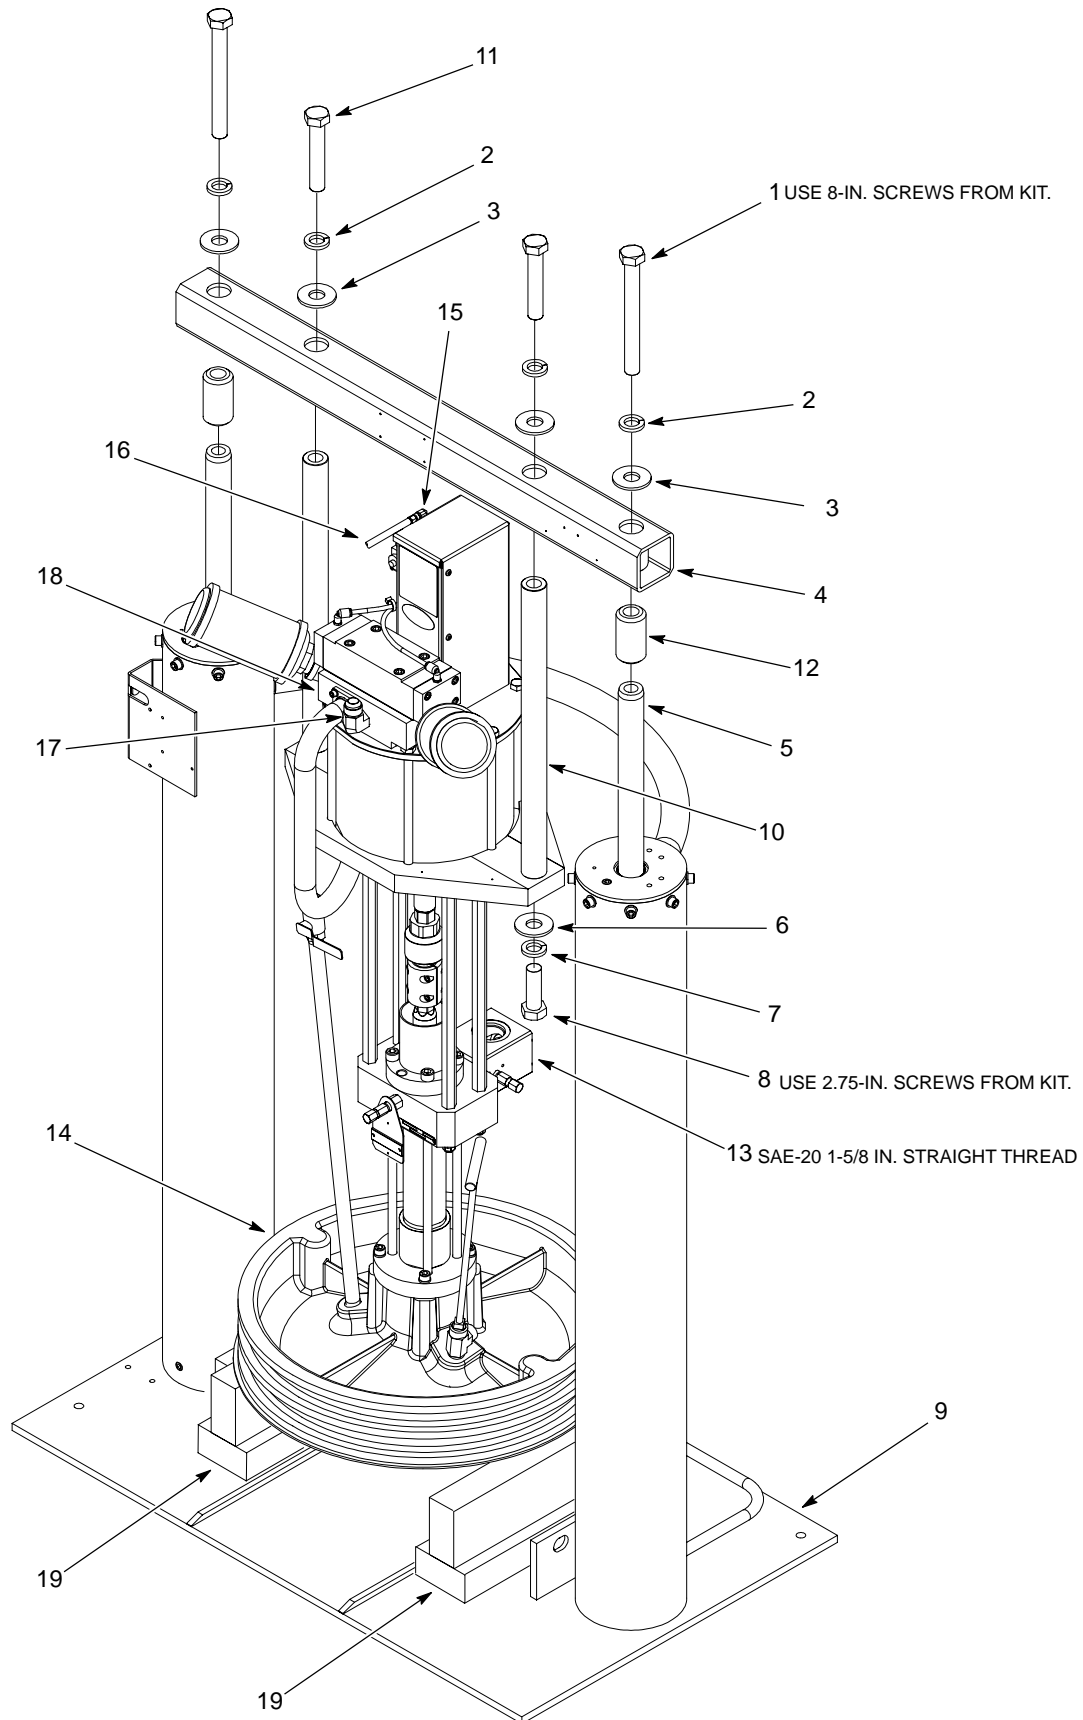

Figure 4 Installing the SD2/XD2 Pump Assembly
- Air line for the air motor signal supply port (Figure 4, Items 15 and 16)
- Regulated air line for the air supply port on the air motor control valve (Figure 4, Items 17 and 18)
1. See Figure 4. Perform the following:
- a. Apply Loctite 242 to the threads of the 2.75-inch screws (8).
- b. Install the mounting rods (10) to the SD2/XD2 pump assembly using the flat washers (6), lock washers (7), and screws (8).
- a. Apply Loctite 242 to the threads of the screws (11).
- b. Install the crossover (4), to the mounting rods (10) using the lock washers (2), flat washers washers (3), and screws.
3. Using the lifting device, carefully position the SD2/XD2 pump assembly onto the frame (9). Use the blocks (19) if necessary to prevent the SD2/XD2 pump assembly from tipping.
- a. Apply Loctite 242 to the threads of the 8-inch screws (1).